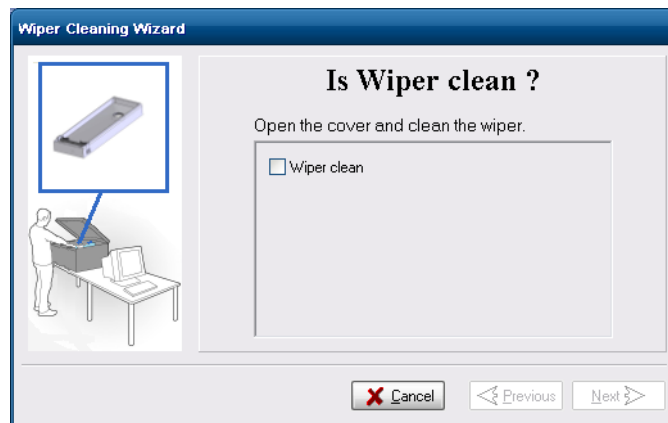

Figure 6-30: Wiper Cleaning wizard during steps 6–9
9. In the wizard screen (see figure 6-30), confirm that the wiper blade is clean, and click Next.